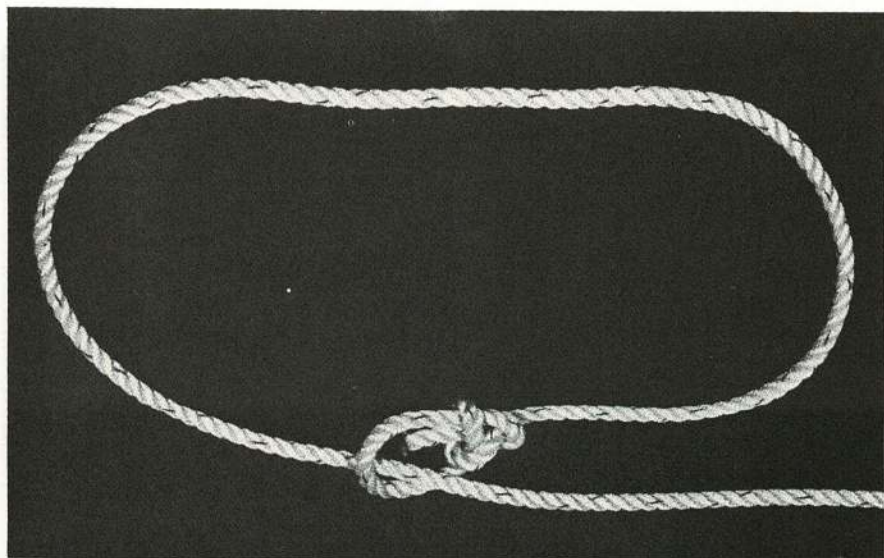

Fig 30 A running bowline is a bowline tied round its own standing part, forming a noose.
c. *Running Bowline.* A running bowline is a bowline tied around its own standing part, thus forming a noose, *Fig 30*.